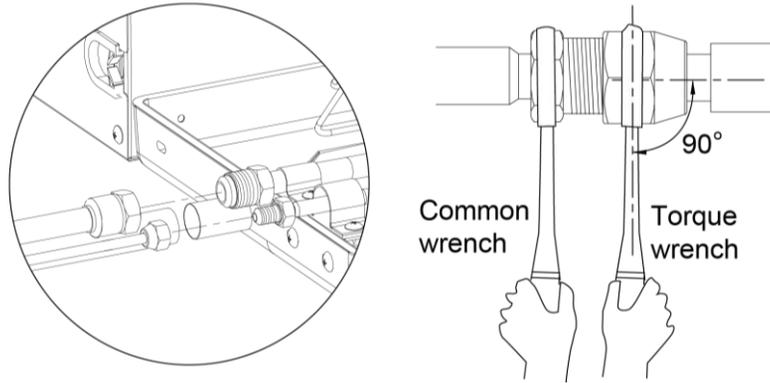

Fig. 4.3.1
- (1) Conform to the following principles during piping connection: Connection pipeline should be as short as possible. The height difference between indoor and outdoor units should be as short as possible. Keep number of bends as little as possible. The radius of curvature should be as large as possible.
- (2) Weld the connection pipes between indoor and outdoor unit. Please strictly conform to the requirements for welding process. Rosin joints and pin holes are not allowable.
- (3) When laying the pipes, be careful not to deform them. The radius of bending parts should be more than 200mm. The pipes can not be repeatedly bent or stretched, otherwise the material will get harder. Do not bend or stretch the pipe over three times at the same position.
(4) Please use a torque wrench to connect union nut on the indoor unit. See Fig. 4.3.1.